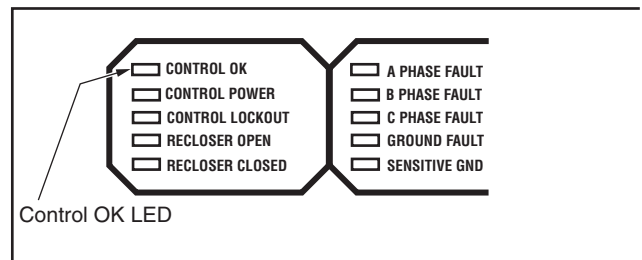

Figure 39. Control OK LED.
3. Check that the LED for Control OK is illuminated on the control operator panel (Figure 39). This indicates the presence of dc power.